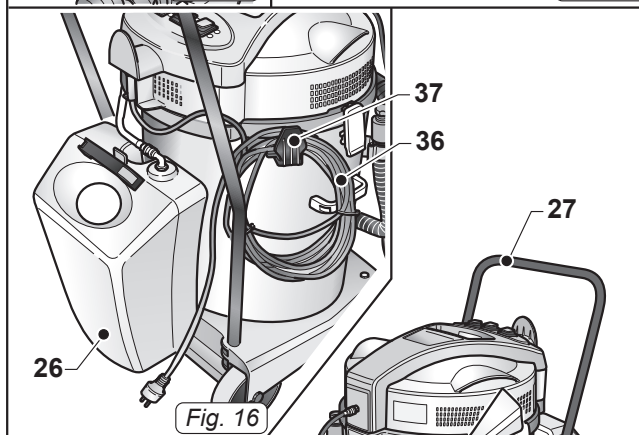

Fig. 16
- Pour into the tank (26 Fig. 16) the detergent necessary for cleaning.